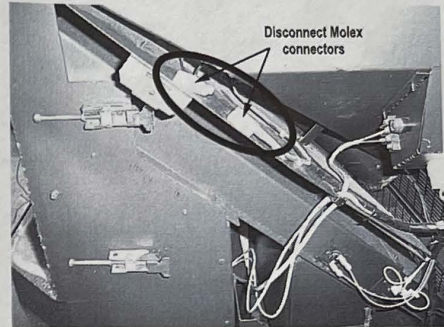

Figure 1
1. Open right side curtain and remove hopper side heat shield to access wiring and disconnect Molex wire connections (Figure 1).